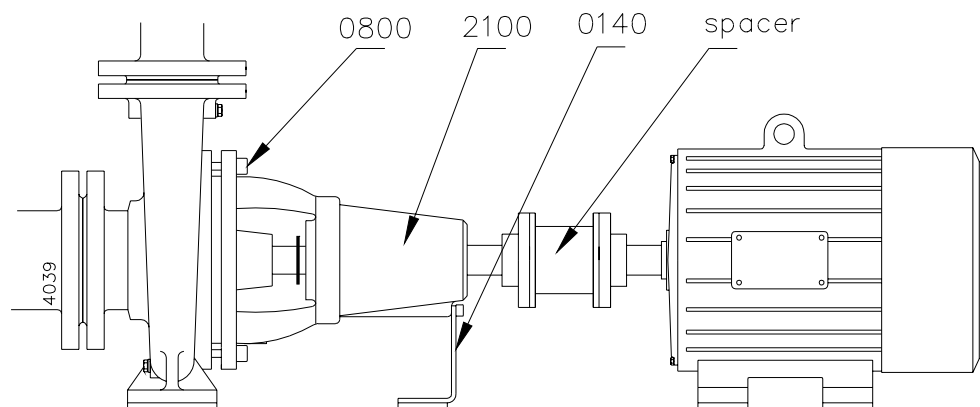

figure 16 Back Pull Out system.
- 2 Loosen the bracket support (0140) from the base plate (see figure 16).